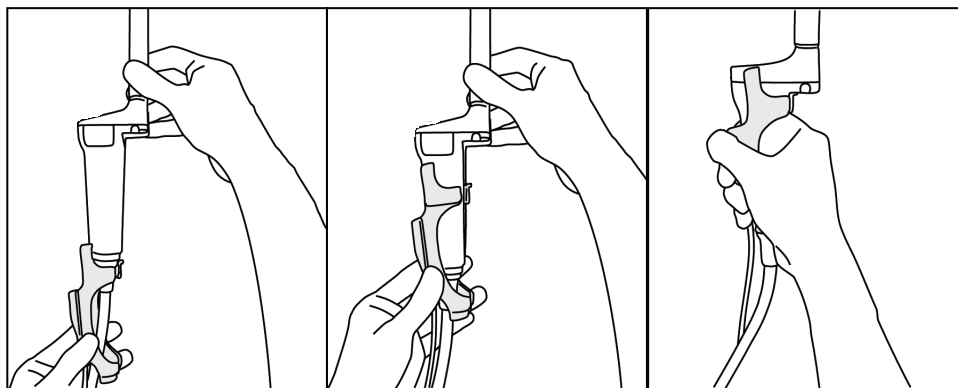

Figure 10 How to attach Magnetic Position Sensor Attachment
- (3) Attach the magnetic position sensor attachment to the probe as shown in Figure 10.